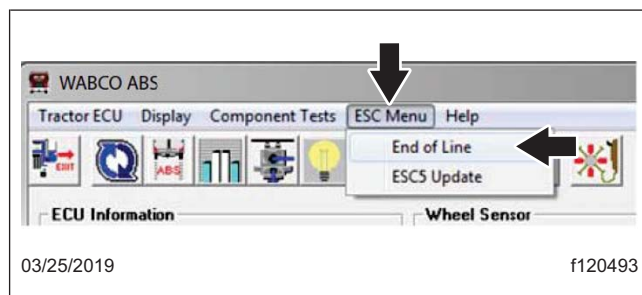

Fig. 3, Selecting the ESC Menu (software version 10)
3. If using software version 10, select 'ESC Menu.' A drop down list opens. Select 'End of Line.' See Fig. 3.
- Begin with the vehicle at a complete stop. From the main menu, select 'ESC Menu,' then select 'End of Line.' See Fig. 3.